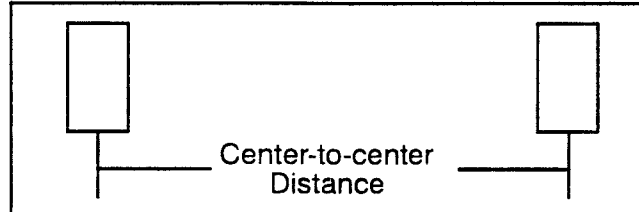

Figure 40
FRONT WHEEL TOE-IN (Fig. 40,41)
1. Measure center-to-center distance (at axle height) at front and rear of steering tires. Front measurement must be 1/8 to 1/4 inch less than rear measurement. (Fig. 40)